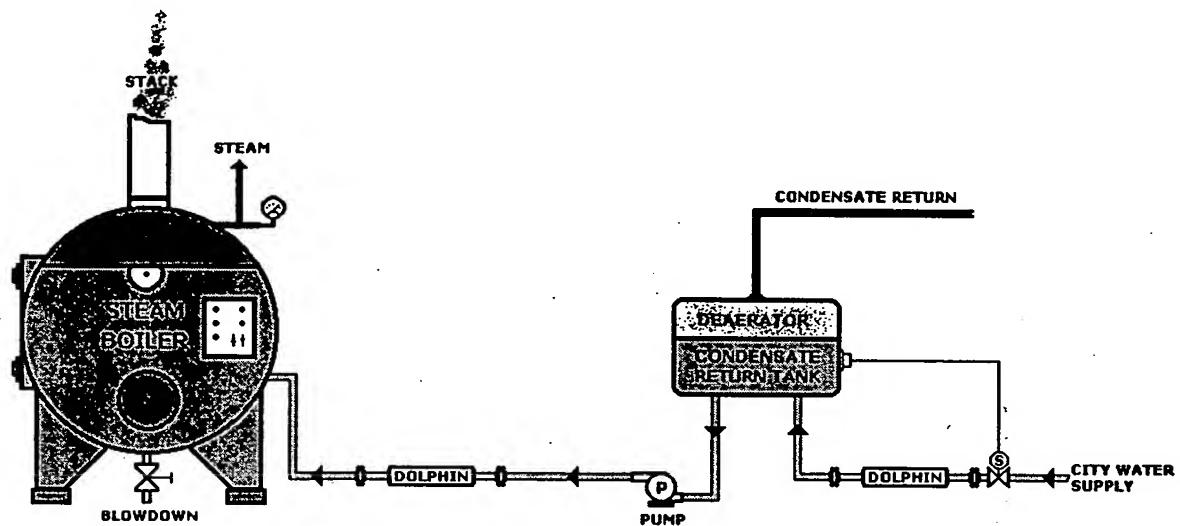

Figure 4. Typical Boiler Installation
1. The make-up line Dolphin System should be installed after or downstream of the fill control valve on the make-up water line into the condensate return tank. Ideally, the line will fill into a reservoir on the tank below the water line, allowing "aronite-diffusion continuity" of the Dolphin System to the make-up water tank. (See Figure 4.)
2. The boiler feed line Dolphin System should be installed after or downstream of the feedwater pump and prior to the boiler. (See Figure 4.)